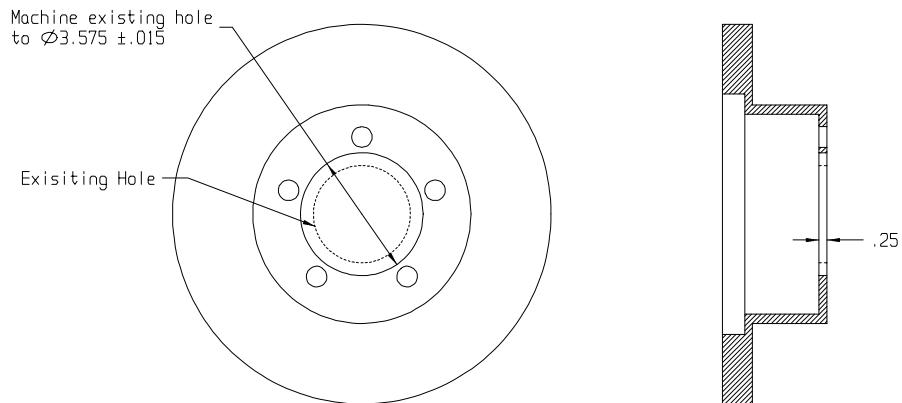

Figure 1. Rotor Machining Diagram
**Before starting, New “full-cast” rotors from 1990 or newer Wrangler must be used with this kit, this rotor (ITT #65225 or equivalent) has a .25 thick mounting flange. Do not use the factory style “composite” rotor (.125” thick flange). Rotor pilot hole must be machined to a diameter of $3.575 \pm .015$ to fit the wheel hub. (See figure 1, Page 2)*